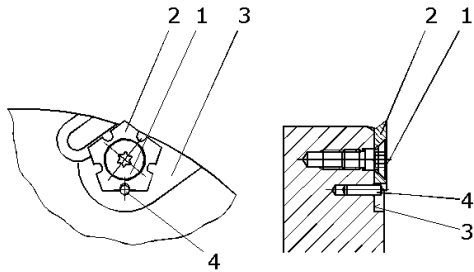

Fig.1
(See Fig. 1, 2 and 3)
2. Loosen the screw (1) with the Torx key and remove it completely from the knife seat.
3. Remove the spur knife (2) from the knife seat.
4. Clean the knife seat (3) and all of the components that go with it. Be sure all clamping surfaces are free from dirt, oil, grease and water.
5. Carefully insert the new or reversed spur knife (see Fig. 1, 2 and 3).
6. Make sure with item KF216001 that the spur knife engages with the positioning pin (4). See Fig. 1.